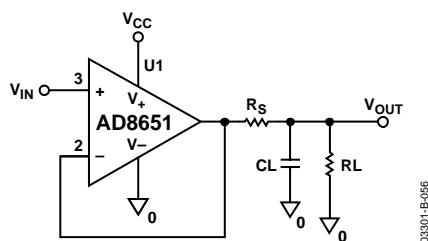

Figure 55. Driving Large Capacitive Loads
1) As shown in Figure 55, place a small value resistor (R_S) in series with the output to isolate the load capacitor from the amplifier's output. Heavy capacitive loads can reduce the phase margin of an amplifier and cause the amplifier response to peak or become unstable. The AD8651 is able to drive up to 47 pF in a unity gain buffer configuration without oscillation or external compensation. However, if an application will require a higher capacitive load drive when the AD8651 is in unity gain, then the use of external isolation networks can be used. The effect produced by this resistor is to isolate the op amp output from the capacitive load. The required amount of series resistance has been tabulated in Table 5 for different capacitive load. While this technique will improve the overall capacitive load drive for the amplifier, its biggest drawback is that it reduces the output swing of the overall circuit.